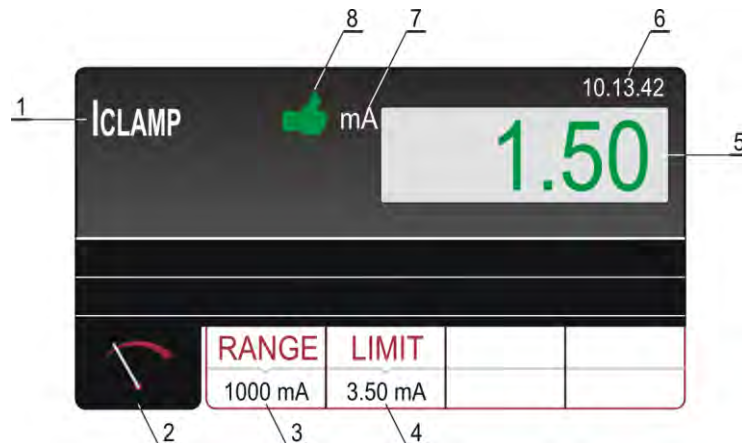

Fig. 70 : Visualization of ICLAMP test result
7. Start the measurement by pressing the **START/STOP** key. The measurement will start to run and will be stopped after pressing the **START/STOP** key again. Measurement result will be currently displayed in green color if it is lower than or equal to set limit value or in red color if it is higher than set limit value. Final result will be equipped with green 🟢 symbol and with acoustic sound if it is OK or with red 🛑 symbol and with longer acoustic sound if it is not OK. See the display outlook with test result in Fig. 70